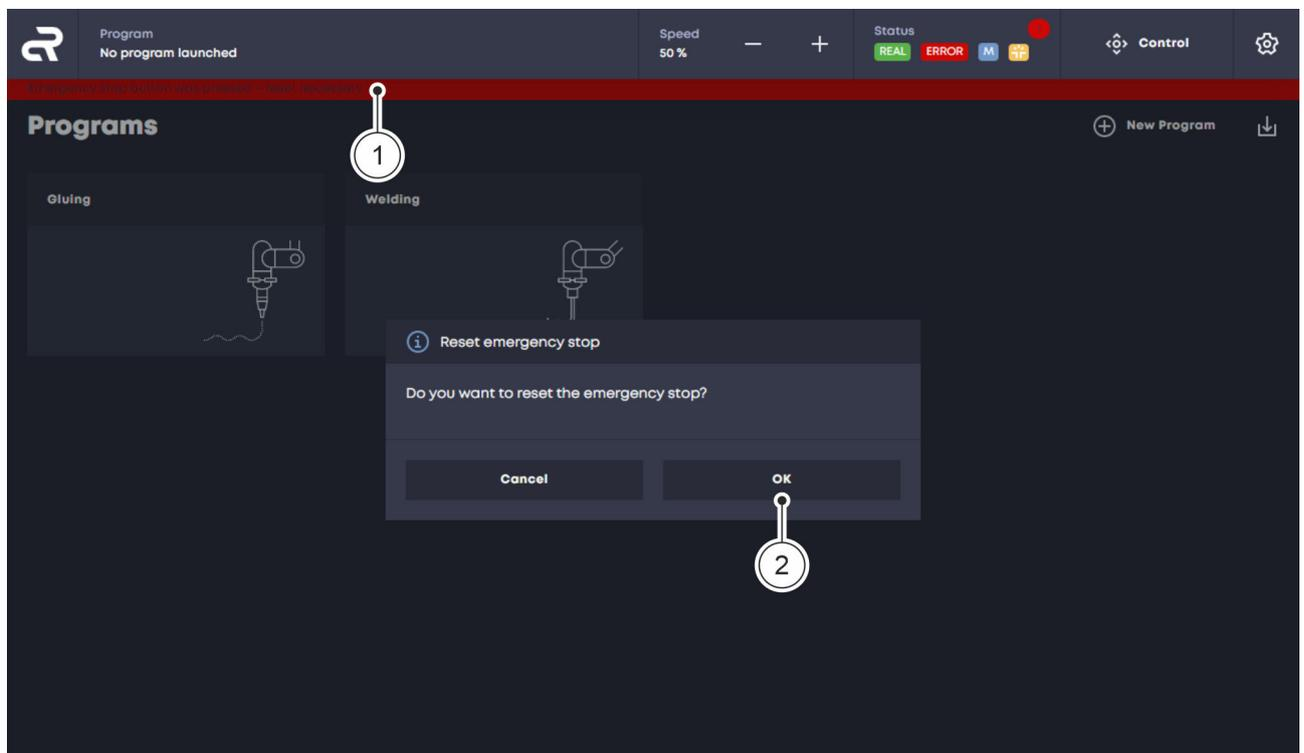

Fig. 33 Acknowledging an emergency-stop status message
To do this, click on the status message Fig. 33 / ① and confirm the query with 'OK' Fig. 33 / ②.